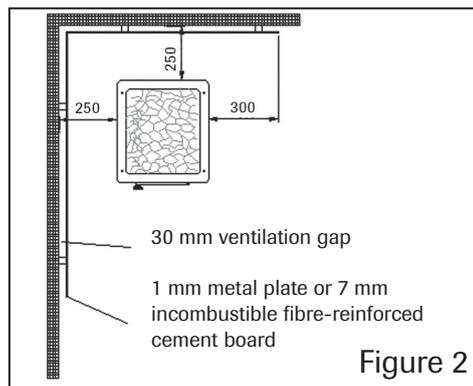

Figure 2
2. The safety distance stated in section 1 (500 mm) can be reduced by half to 250 mm if so-called light, single-layer thermal protection is installed. A single-layer, light thermal shield can be made from min. 7 mm thick fire-resistant fibre-reinforced cement board or from min. 1 mm thick metal sheet which has been fixed sufficiently tightly to the wall. A ventilation gap of 30 mm must be left between the thermal shield and the wooden surface, e.g. using pipe sleeves. (Figure 2)